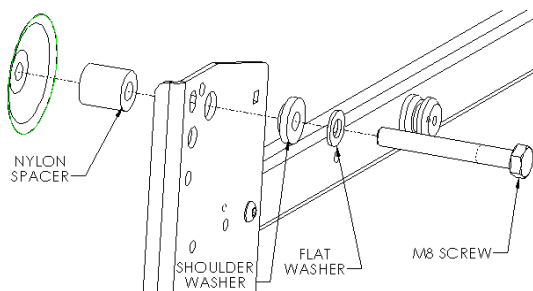
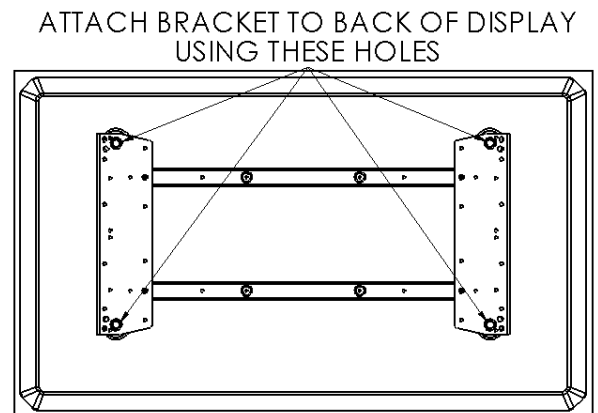

Figure 8
Figure 9
5. **Bracket Installation:** Place four nylon spacers over mounting holes on back of screen. Attach mounting brackets to display using the M8 screws, shoulder and steel washers (see Figure 8 & Figure 9). Do not over tighten screws.